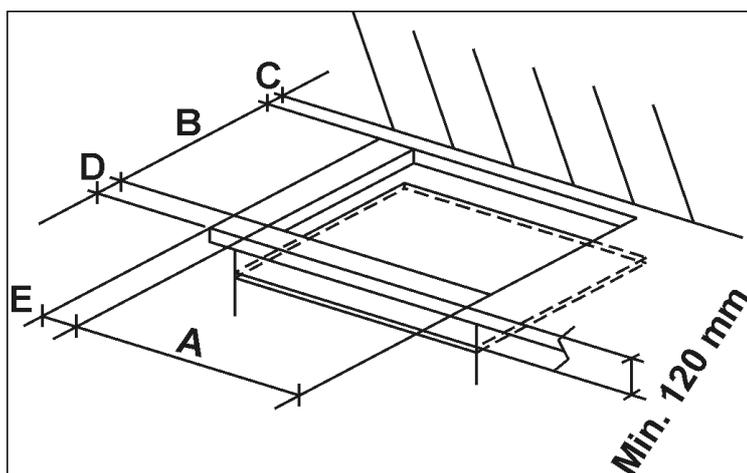

FIG. 5
Make a cutout in the worktop, according to the dimensions indicated in fig. 5; make sure that will be respected the critical dimensions of the space in which the appliance has to be installed (fig. 5 - 6).
- In order to avoid accidental touch with the overheating bottom of the hob, during the working, is necessary to put a wooden insert, fixed by screws, at a minimum distance of 120 mm from the top (see fig. 5).